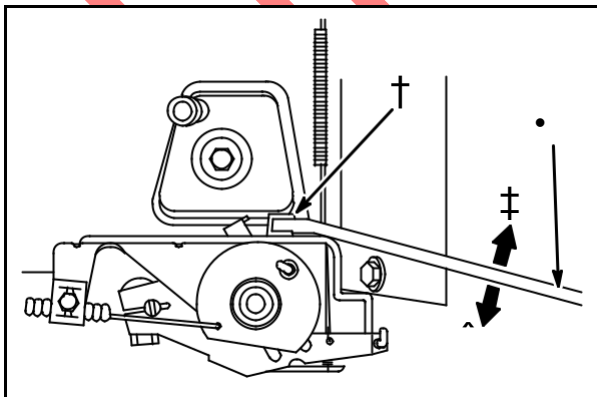

Fig. 34
Use Tool #19352 (1) to bend tang (6) UP (7) to increase and DOWN (8) to decrease engine speed, to obtain desired Top No-Load RPM, **Fig. 34**.